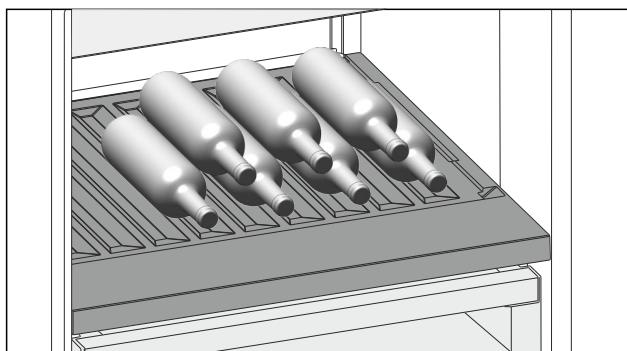

Fig. 87
- ▶ Place bottles in the back row with their bases against the back wall. (see Fig. 87)